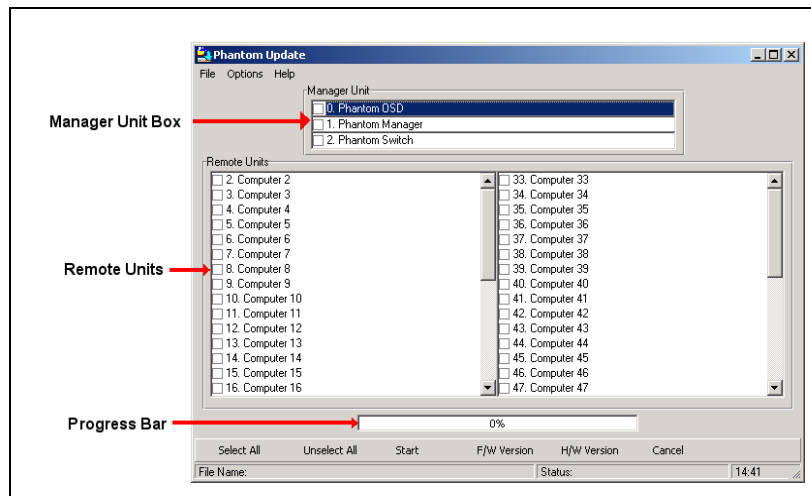

Figure 6-1 The Phantom Update window
1. Start the Phantom Update software. The Phantom Update window appears. See Figure 6-1.